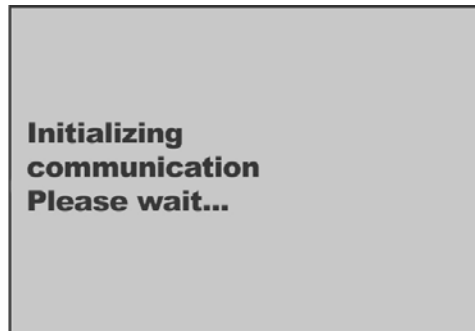

Figure 8.6. PQF-Manager display during communication initialization
- Step 1: The PQF-Manager waits for the communication channel to be initialized. This process can be observed when looking closely at the PQF-Manager. During this period the following message will appear on the display (Figure 8.6.)